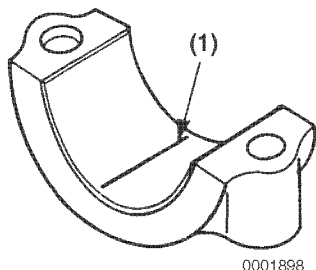

Figure 6-43
- (c) Place a piece of PLASTIGAGE® **(Figure 6-43, (1))** along the full width of the bearing insert.